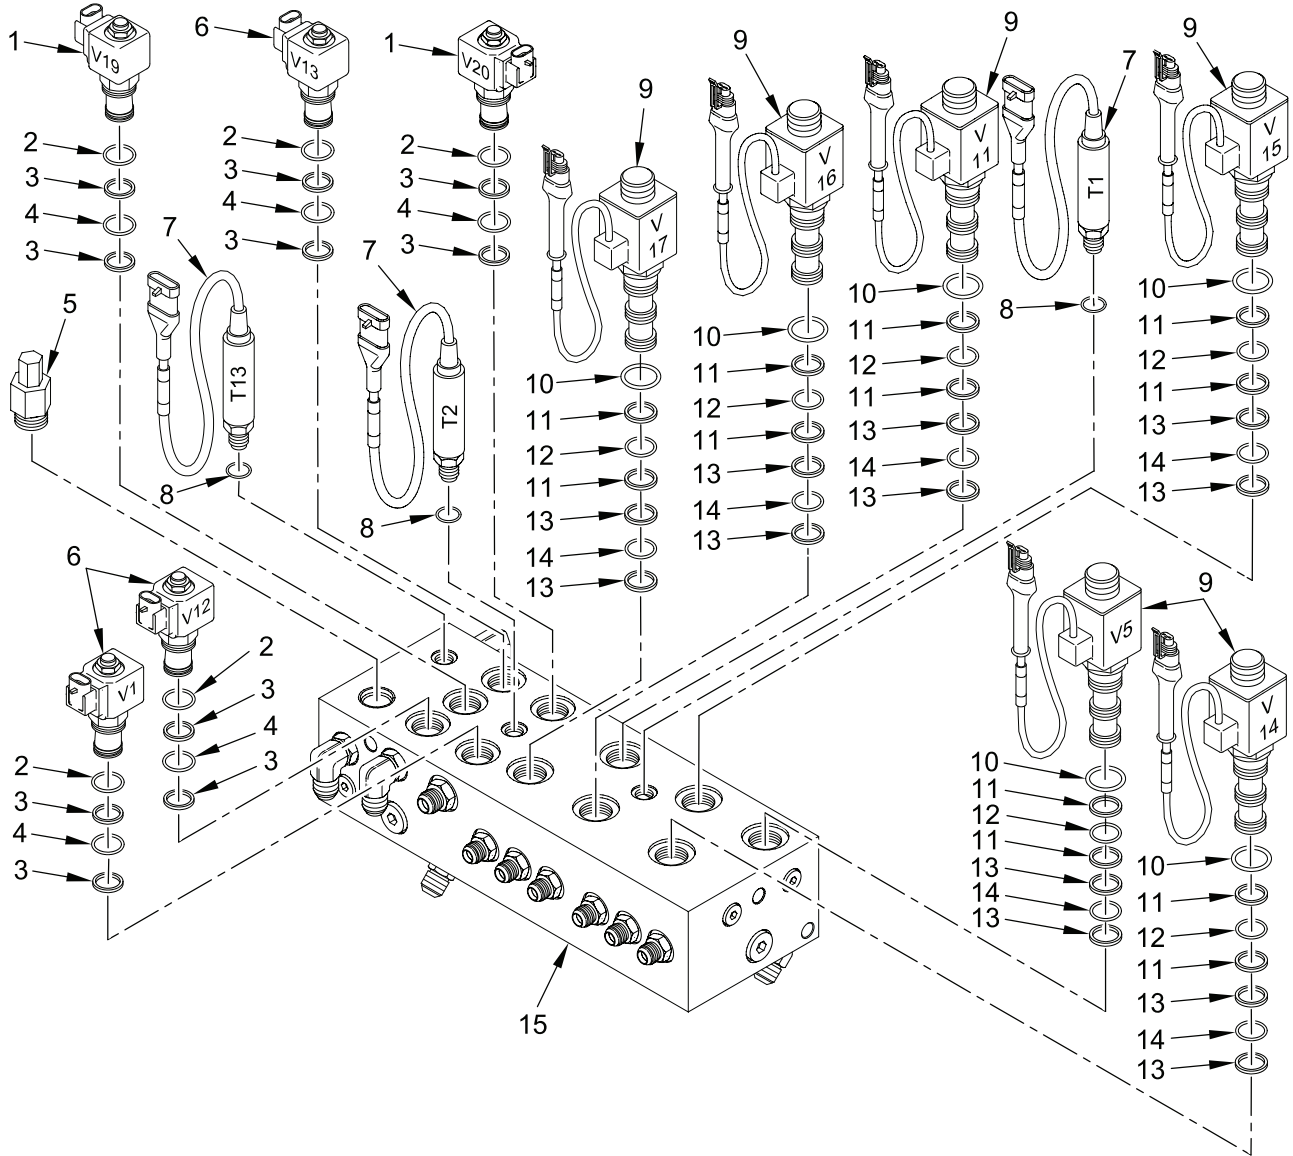

Figure 3. Installing Valves and Transducers On Primary Manifold
1. Install three new o-rings (Figure 3, item 2), three new teflon backups (Figure 3, item 3), three new o-rings (Figure 3, item 4), three new teflon backups (Figure 3, item 3), and three NO valves (Figure 3, item 6), on primary manifold (Figure 3, item 15).
2. Install two new o-rings (Figure 3, item 2), two new teflon backups (Figure 3, item 3), two new o-rings (Figure 3, item 4), two new teflon (Figure 3, item 3), and two NC valves (Figure 3, item 1).
3. Install six new o-rings (Figure 3, item 10), six new teflon backups (Figure 3, item 11), six new o-rings (Figure 3, item 12), six new teflon backups (Figure 3, item 11), six new teflon backups (Figure 3, item 13), six new o-rings (Figure 3, item 14), six new teflon backups (Figure 3, item 13) and six three-way valves (Figure 3, item 9), on primary manifold (Figure 3, item 15).
4. Install relief valve (Figure 3, item 5), three o-rings (Figure 3, item 8), and three transducers (Figure 3, item 7) on primary manifold (Figure 3, item 15).